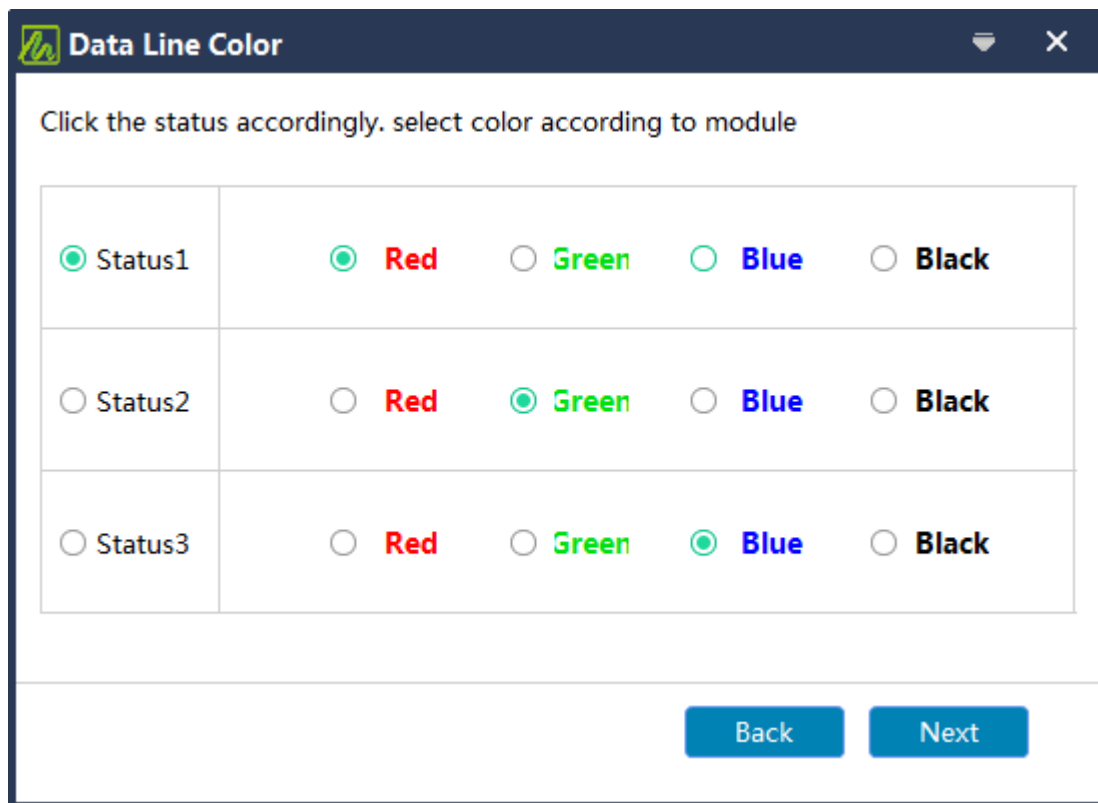

Figure 4-2-3 Normal Mode- Select Data Line Color
(3) Click “Next” to get to the “ Data Line Color” interface, and then click status 1-3 respectively, and select the corresponding color according to the actual color that displayed on the module, as shown in Figure 4-2-3